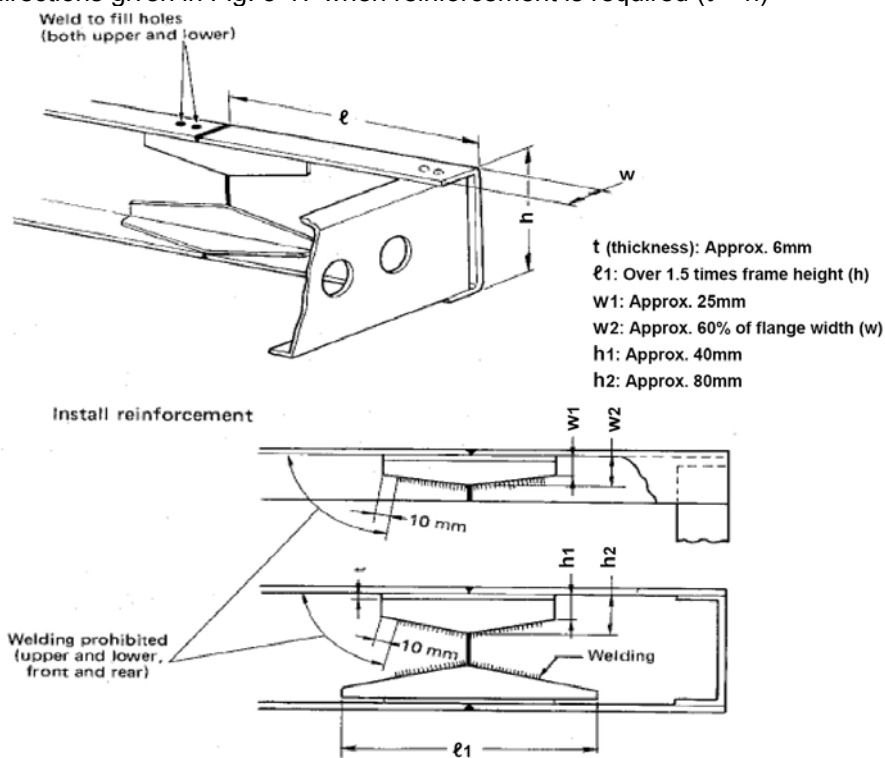

Fig. 3-17
- Follow the directions given in Fig. 3-17 when reinforcement is required ($\ell > h$)